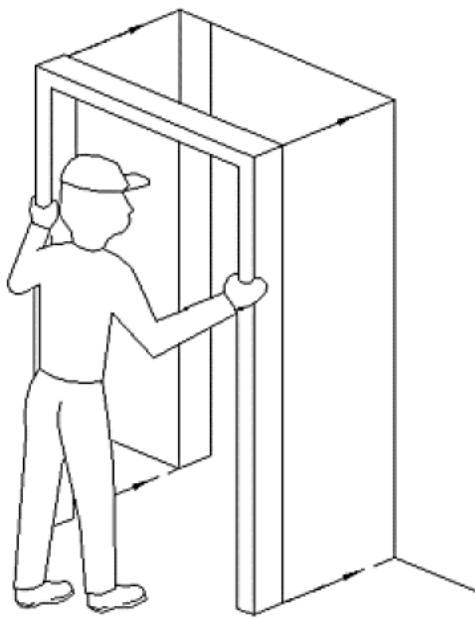

Figure 25
2. Wall Preparation: Place the frame in the completed wall opening. (Figure 25) Check for squareness. Mark the wall through the holes in the jamb provided at the anchor points. Drill appropriate holes at the marks. Install the sleeve anchors.